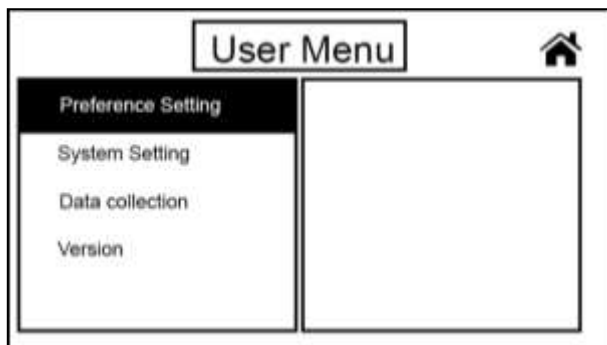
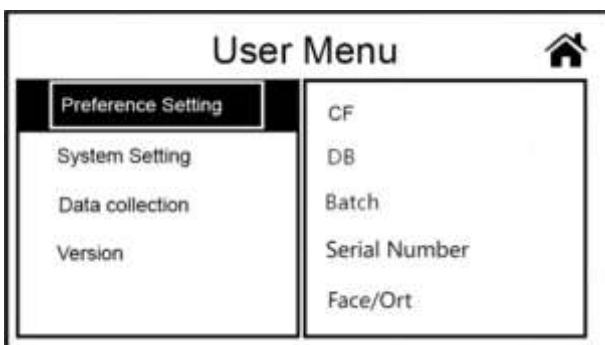

Figure 57
Figure 58
1) Touch the “Menu” key to enter the “User Menu” interface, as shown in Figure 57 below. Then press “Preference Setting” to enter the “Preference Setting” interface, as shown in Figure 58.